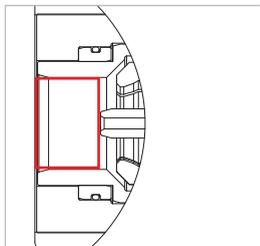

Figure 20
- ▶ Prior to this check, be sure to purge the WEH® product with nitrogen or compressed air at the following areas (*Figure 20*):